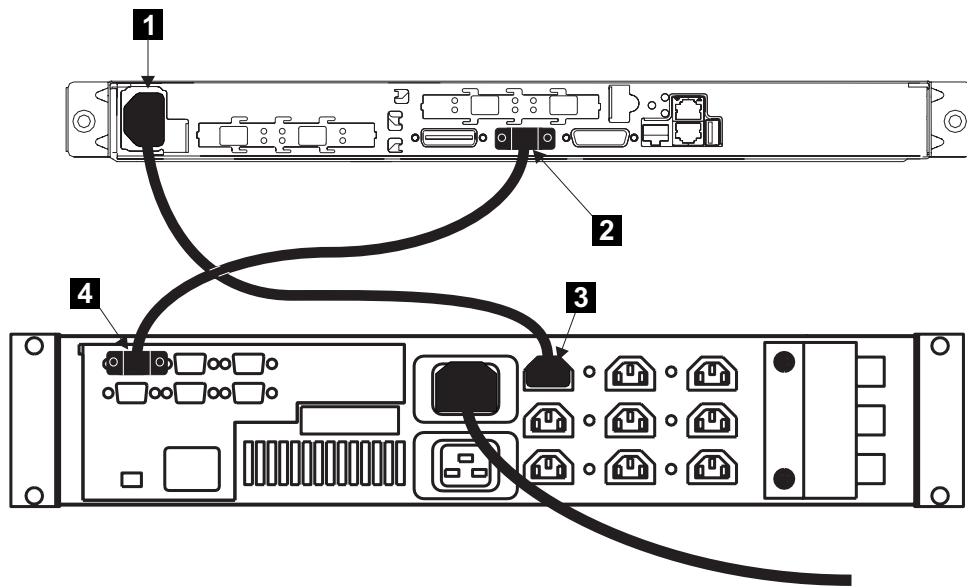

Figure 29. Connecting the SAN Volume Controller power cable to the uninterruptible power supply
1. At the back of the SAN Volume Controller, plug a power cable into the power connector **1**. See Figure 29.
2. Plug the signal cable of the power cable assembly into the serial connector **2**. See Figure 29.